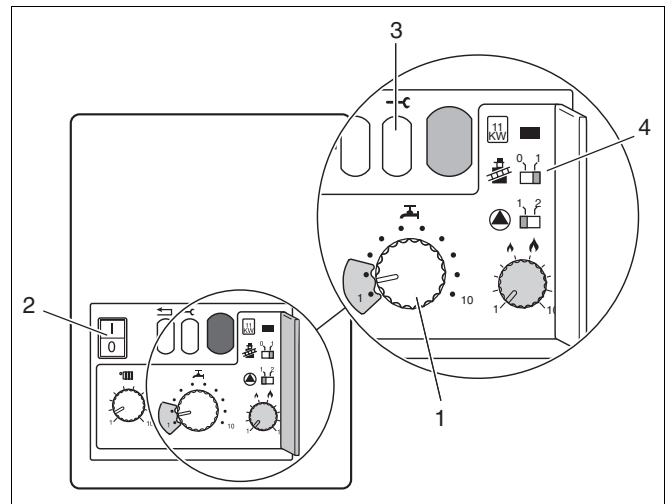

Fig. 32 Power switch, service button and chimney sweep switch
- Turn power switch (fig. 32, item 2) and chimney sweep switch (fig. 32, item 4) to "0".
- If the burner has fired after approx. 30 seconds, keep the service button (fig. 32, item 3) pressed until "Y" appears on the display.
- Turn the hot-water temperature controller (fig. 32, item 1) to "1".